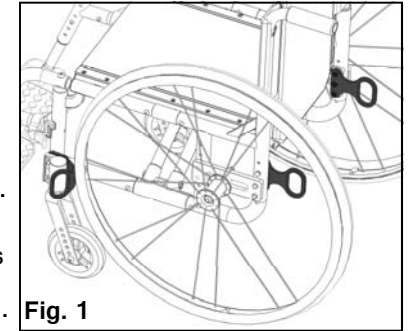

Fig. 1
- Attach wheelchair tie-downs to the four securement points (two front, two rear) on the Tsunami wheelchair with the Transit Option (Fig. 1) in accordance with the wheelchair tie-down manufacturer's instructions and **RESNA WC-4:2012, Section 18** or **ISO 10542-1:2012 - Part 1**.